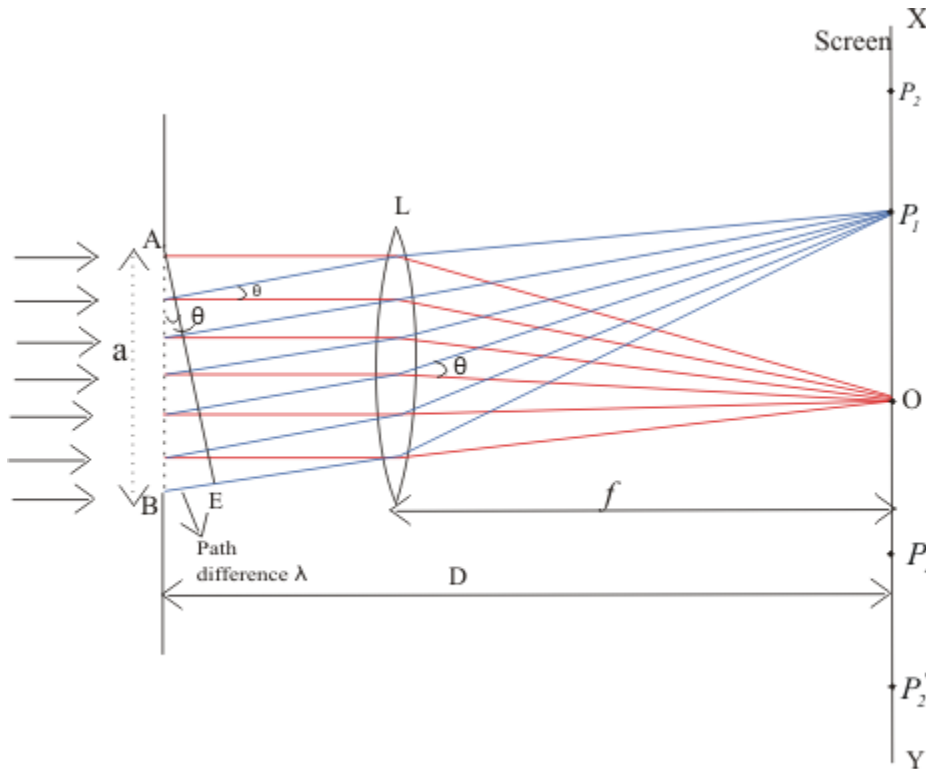

Figure 1. Fraunhofer diffraction of a plane wave at single slit
- Such a point on screen as given by the equation (1) would be point of secondary minimum
- Again consider the point P_2 in the figure 1 and if for this point path difference $BE = 2\lambda$, then we can imagine slit to be divided into four equal parts